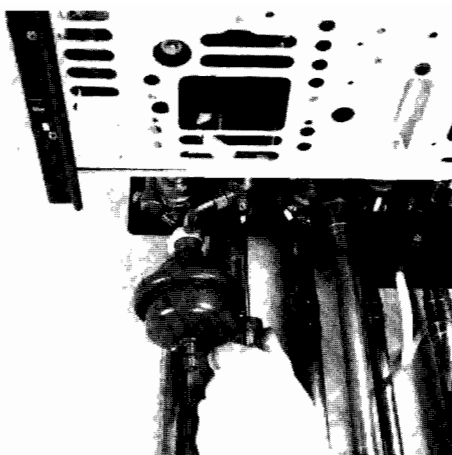

Fig. 45
8.4.2 Using the isolating valve in the cold main inlet connection, adjust the flow of cold water through the boiler to give 11 litres per minute at a hot water tap (refer to Fig. 45).